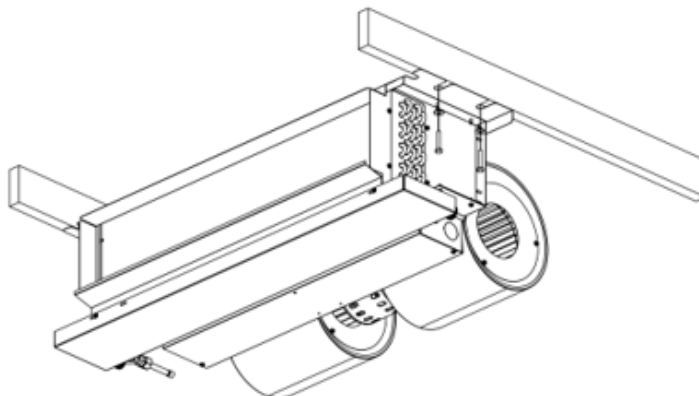
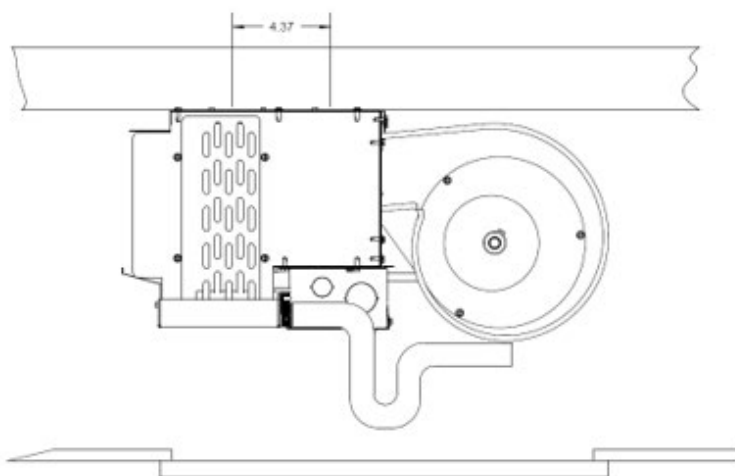

Figure 12 - Structure Support with Fasteners
Figure 13 - Structure Support Location
These units are equipped with four (4) mounting slots to facilitate secure attachment. Installers must use metal washers and nuts of the proper size, ensuring all connections are tight and stable. If mounting to wooden joists, use a minimum of 1/4 in. by 2 in. wood screws fully engaged with fender washers to secure to the unit the structure. If the mounting surface is uneven, shims must be used to achieve proper leveling, ensuring effective condensate drainage. Refer to **Figure 12 - Structure Support with Fasteners** and **Figure 13 - Structure Support Location**.